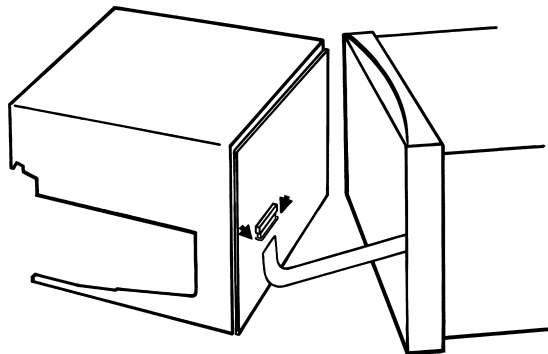

Figure 7.6.1c Flexi-cable removal (Non-graphics model shown; graphics units similar)
4. Remove the flexicable from its connector as shown in figure 7.6.1c. (The connector consists of a fixed part attached to the circuit board, and a moving clamp. The clamp should be gently prised away from the fixed part, until the flexi cable can be removed easily.)